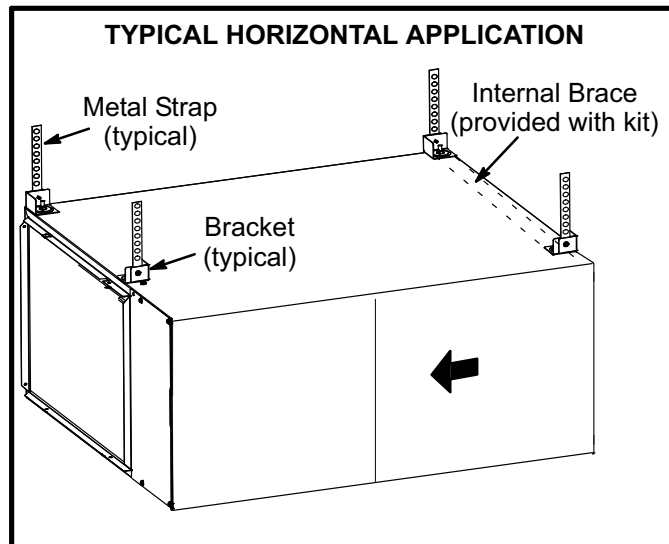
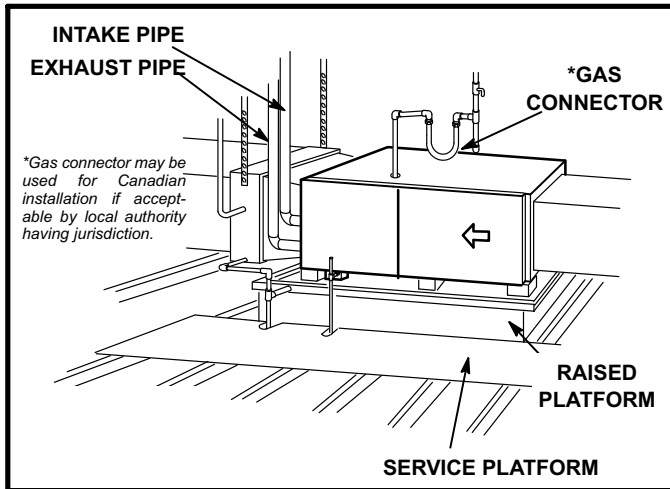

FIGURE 16
FIGURE 17
This furnace may be installed in either an attic or a crawlspace. Either suspend the furnace from roof rafters or floor joists, as shown in figure 16, or install the furnace on a platform, as shown in figure 17. A horizontal suspension kit (51W10) may be ordered or use equivalent.
- 2 - Construct a raised wooden frame and cover frame with a plywood sheet. If unit is installed above finished space, fabricate an auxiliary drain pan to be installed under unit. Set unit in drain pan as shown in figure 17. Leave 8 inches for service clearance below unit for condensate trap.